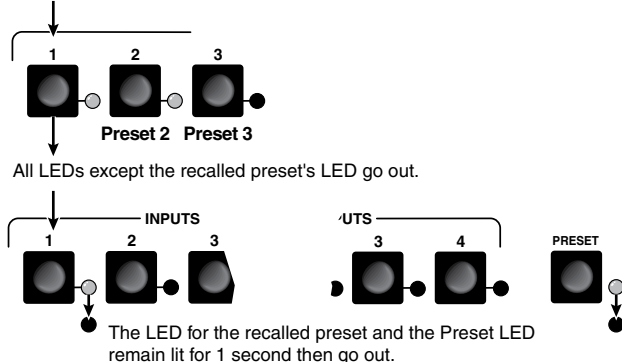

Figure 3-29 — Select the preset, MVX 48
2. Press and release the Input 1 button (figure 3-29).